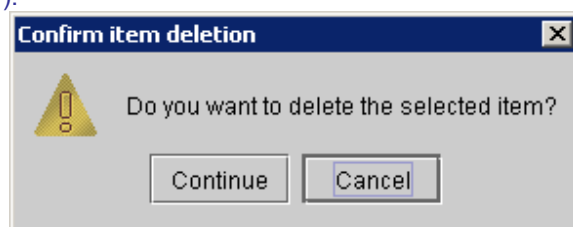

Figure 177 : Graphic element deletion confirmation
- Click on the **Remove** button; the following graphic element deletion confirmation message then appears (Figure 177):